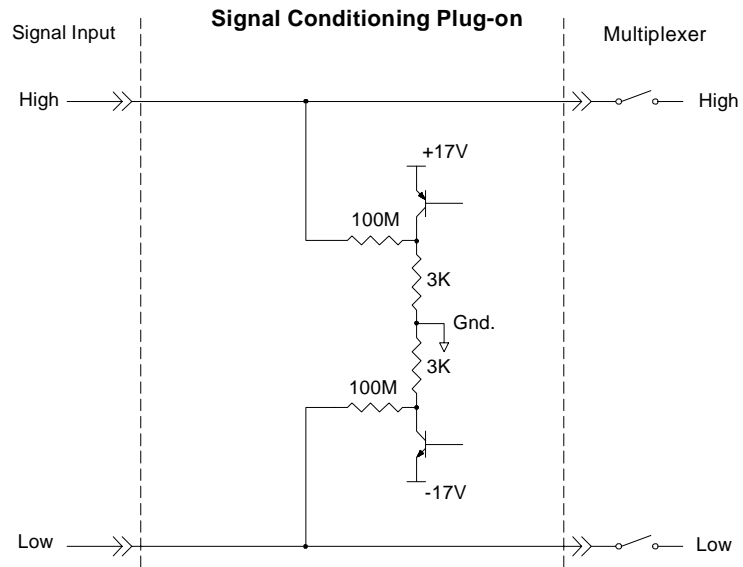

Figure 8. Open Transducer Detect Circuit
The SCP provides a method to detect open transducers on all channels of the SCP. When Open Transducer Detect (OTD) is enable, the SCP injects a small current into the HIGH (H) and LOW (L) input of each applicable channel. The polarity of the current pulls the HIGH inputs toward + 17V and the LOW inputs toward -17V. If a transducer is open, measuring that channel returns an over-voltage reading. OTD is available on a per SCP basis. Thus, all eight channels are enabled or disabled together. See Figure 8 for a simplified schematic diagram of the OTD circuit.
Open Transducer Detection (OTD) is controlled by bits in the Card Control Register. For more information on OTD, see Figure 8.